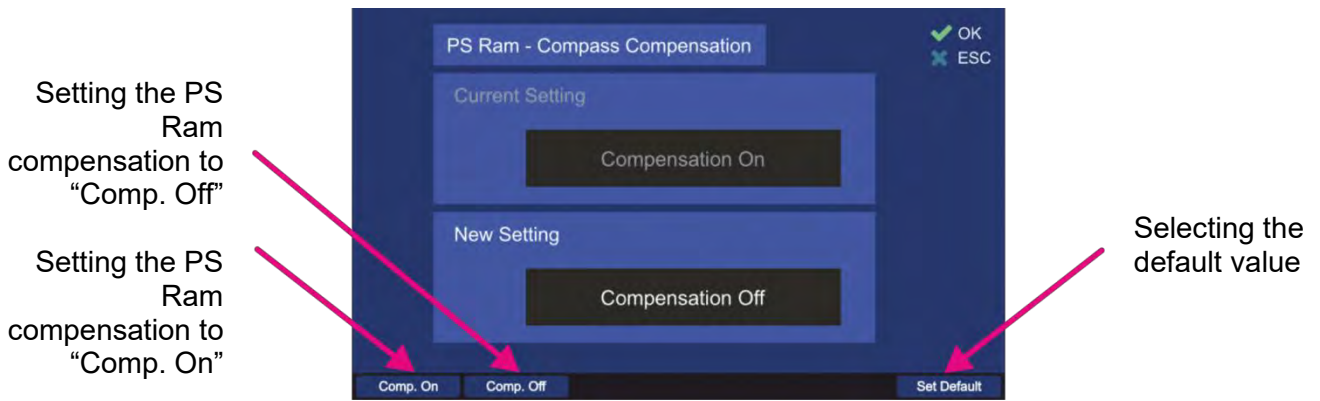

Figure 105. PS Ram compensation dialog
- o Choose the new setting using one of the hotkeys (s. Figure 105), which will then appear in the “New Setting” field.